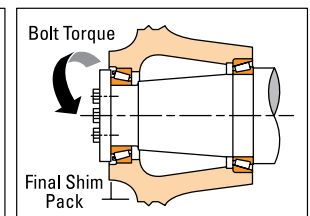

Figure 18. Assembly Complete
4. Install final shim pack and complete the assembly by installing all cap screws (Figure 18).